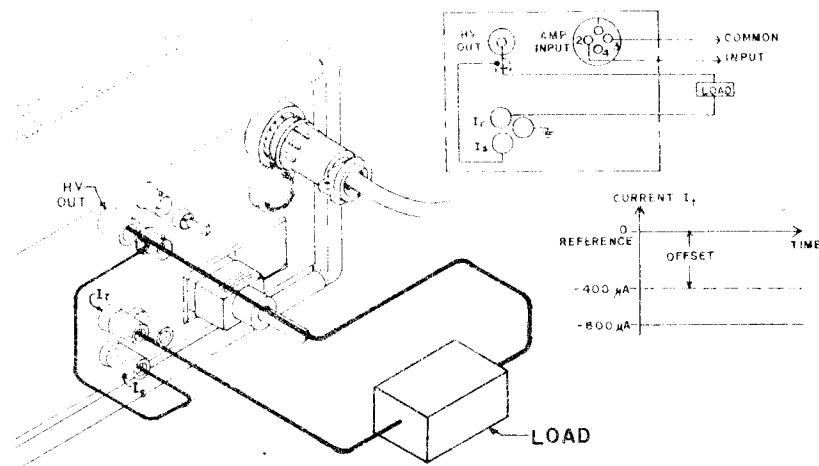

Figure 74. Example of Rear Panel Connections
- b. At the rear panel, make the connections (see Figure 74):